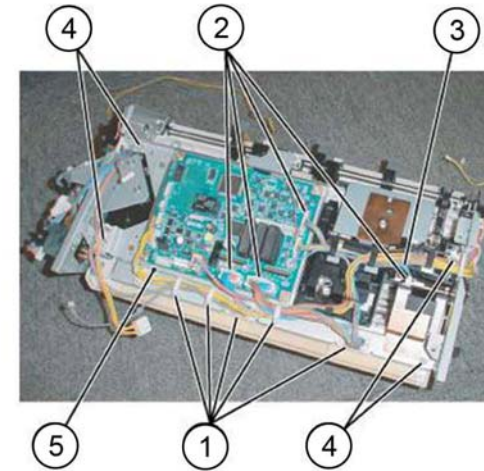

Figure 2 Bottom plate removal
8. Remove the bottom plate, Figure 2:
- a. Release the harness from the five clamps (1).
- b. Disconnect 8 connectors (2).
- c. Release the harness from the retainer (3).
- d. Remove four screws (4).